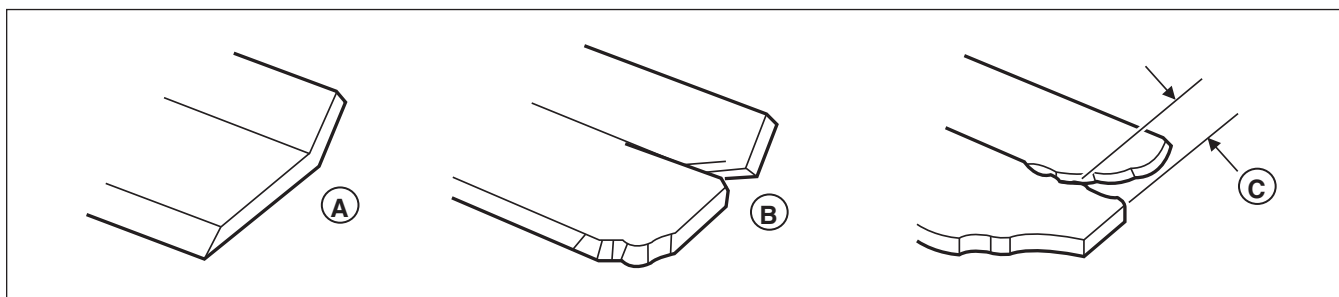

Figure 27. Inspecting the Mower Blade Air Lifts
- The air lifts are excessively eroded (**B & C**, **Figure 27**) and the notch (**C**) is .25" (6,35 mm) deep or greater.